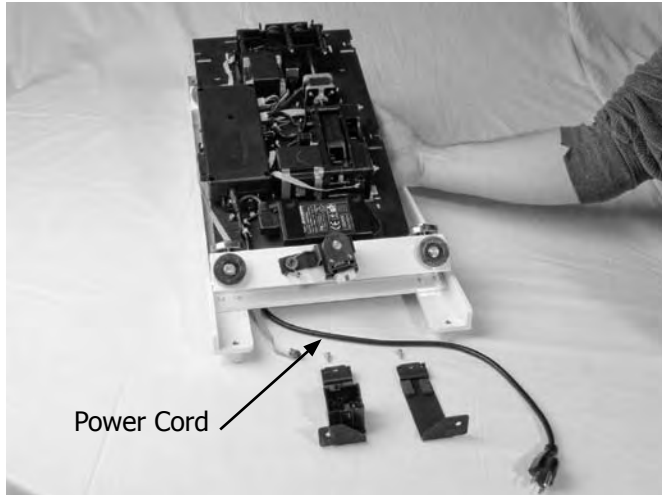

Fig. 1-B
**Note:** You will need to slide the QuiltMotion Plate all the way to the end of the carriage, then tilt it in order to fit it in place in the bottom carriage (see Fig. 1-C).